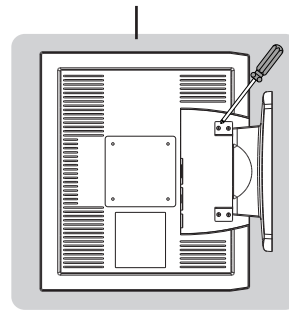

Figure R.1
2. Place monitor face down on a non-abrasive surface (**Figure R.1**).
3. Remove the 4 screws connecting the monitor to the stand and lift off the stand assembly (**Figure R.1**). The monitor is now ready for mounting in an alternate manner.